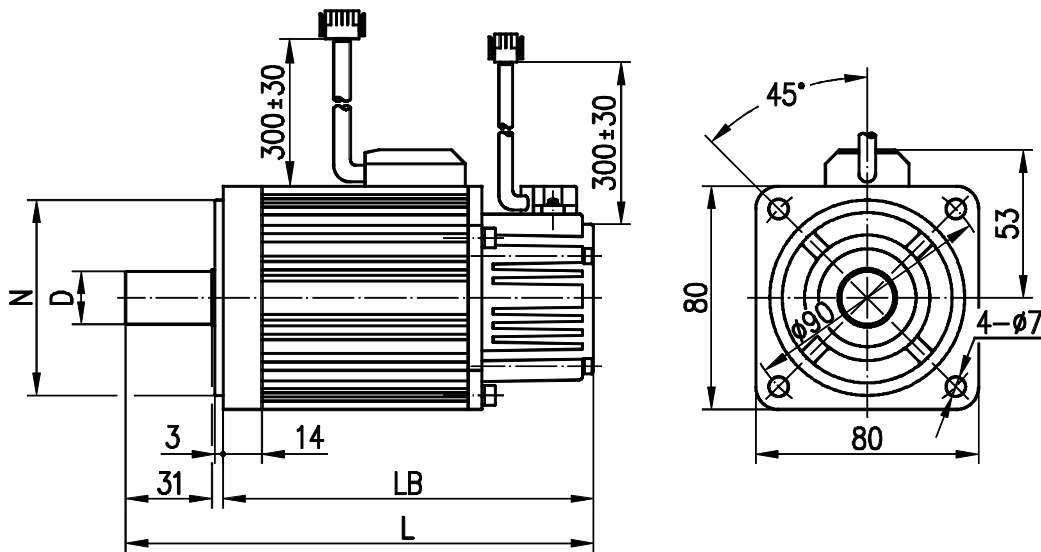

Fig1
6.1 See Fig.1 about the installation dimensions of 80SJT